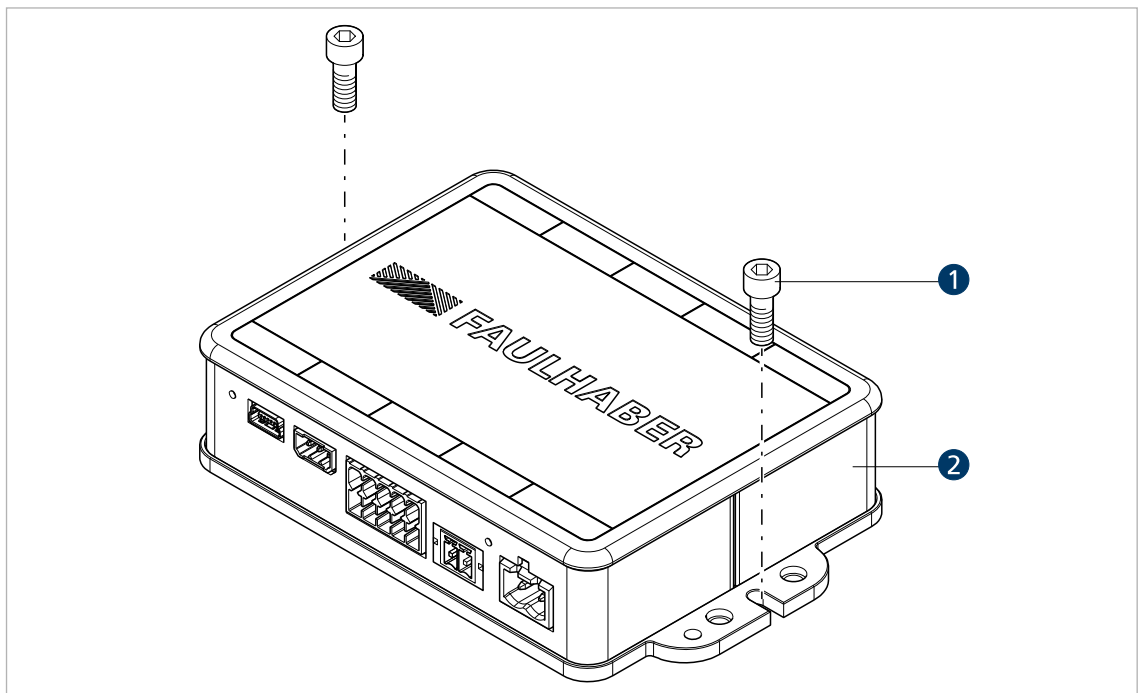

Fig. 6: Attachment via the side plates
- ▶ Attach the Motion Controller (2) to the mounting plate with screws (1) as described in Fig. 6.